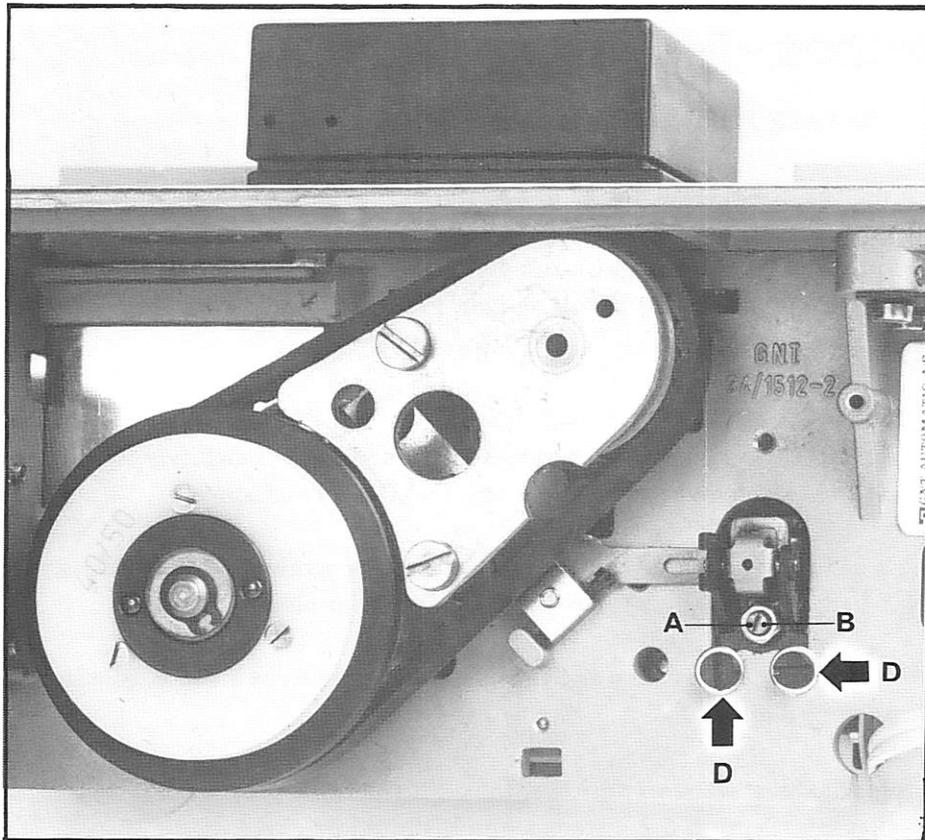

Fig. 6.10 Clutch Magnet, Adjusting Screw Locations
- h) Mount the two fastening screws D (see Fig. 6.10), but do not tighten.